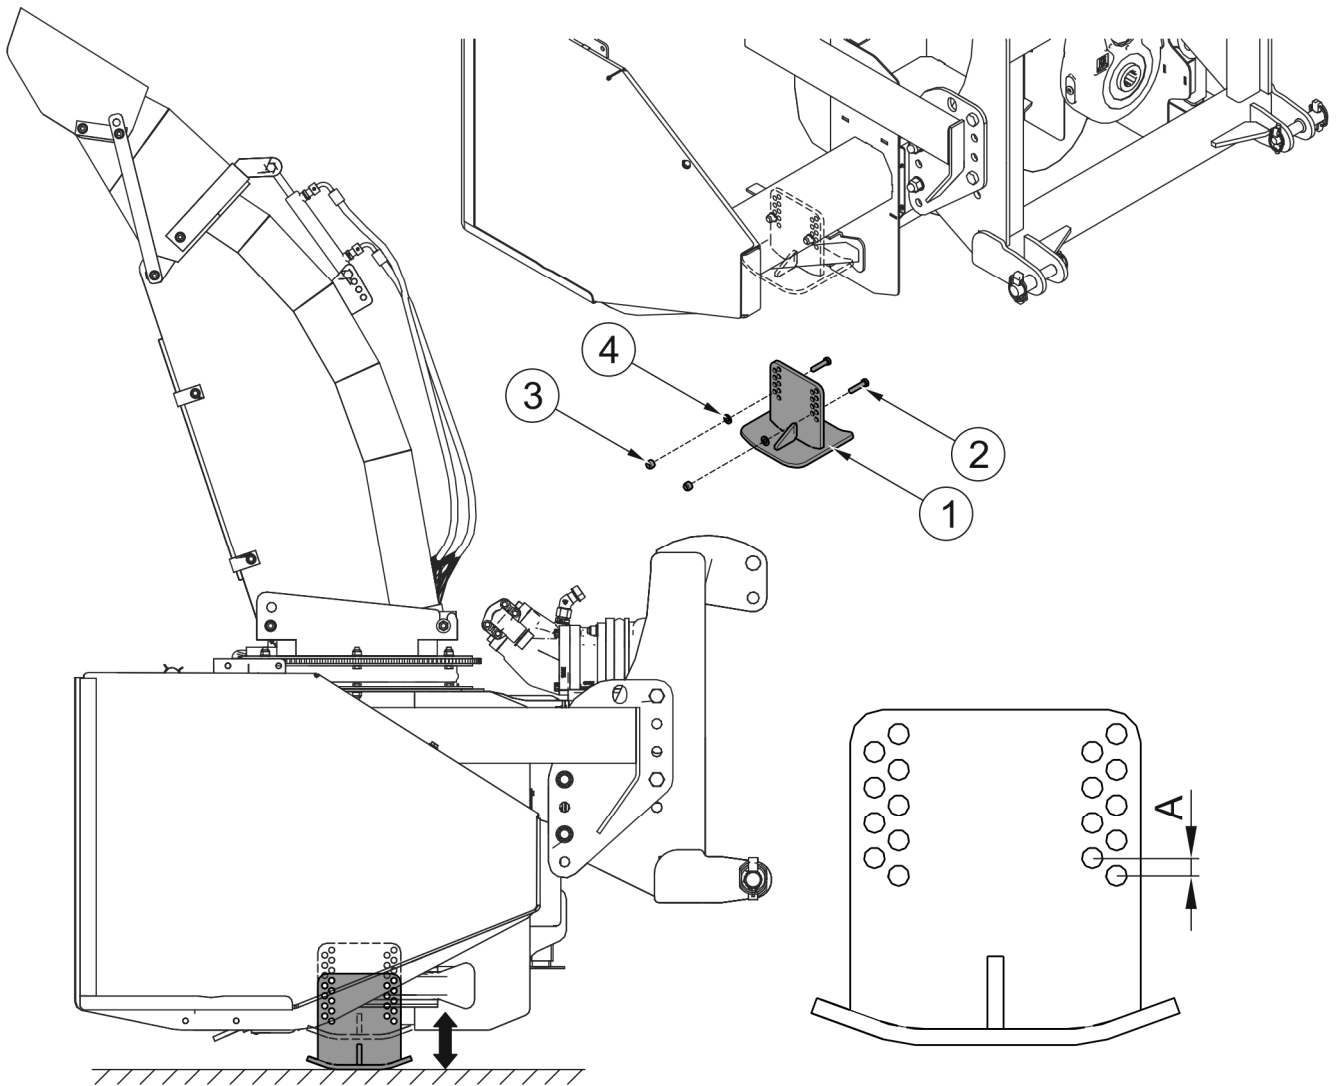

FIG. 4.9 Adjusting the working height by means of skids
If adjustment of the working height by means of the central link is insufficient, the skid height adjustment may be carried out (FIG. 4.9). Such adjustment is carried out within the range of 88 mm by changing position of bolts (2) in skid fixing holes arranged every 11 mm (A). In order to do this raise the snowblower and support with sufficiently stable and strong supports. If the machine is hitched and raised on the three-point linkage, protect it additionally against falling and immobilise the carrying vehicle (turn off the engine and engage the parking brake.) Undo nuts (3), take out bolts (1) and insert them again in suitable holes in the skid. Fix both skids at the same height, tighten nuts (3).